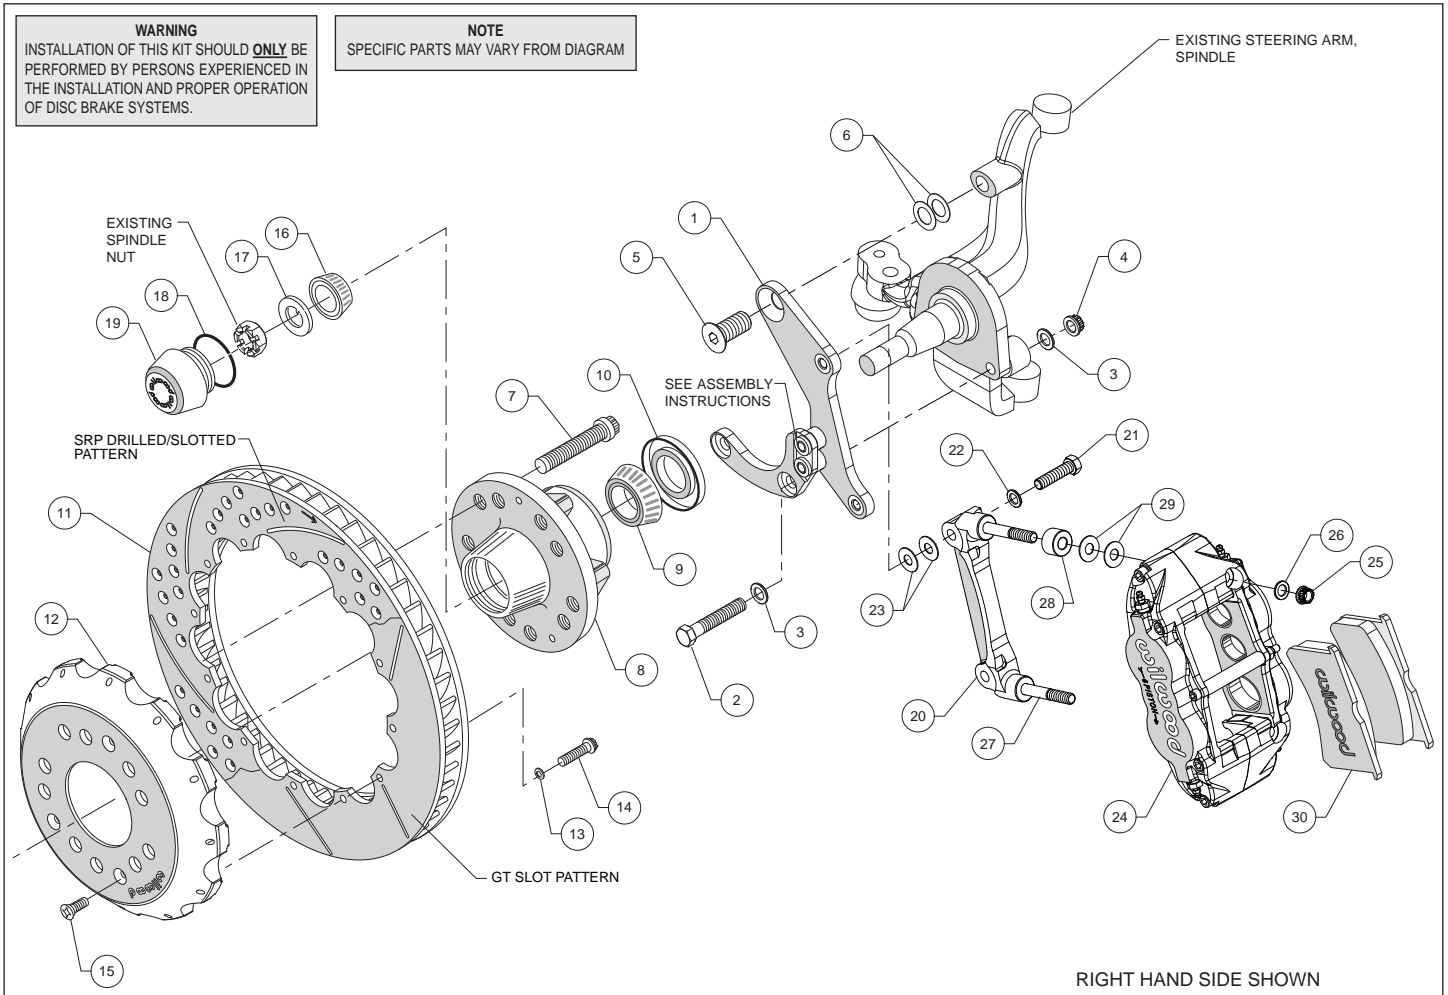
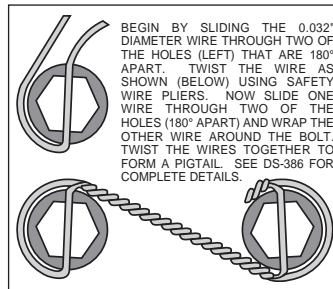
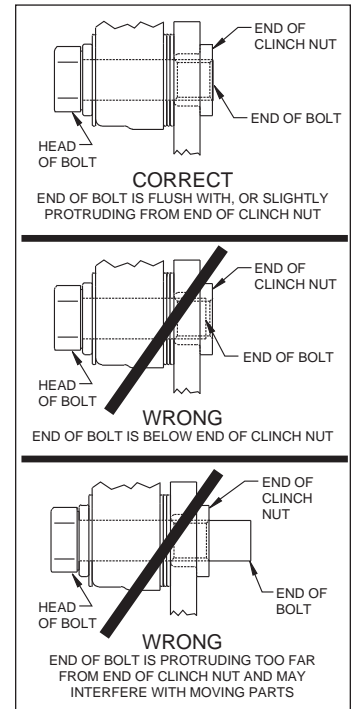

Figure 1. Typical Installation Configuration
Figure 3. Safety Wire Diagram
Figure 4. Clinch Nut Engagement Diagram
Assembly Instructions (numbers in parenthesis refer to the parts list and Figure 1 on the preceding pages): **CAUTION:** All mounting bolts must fully engage clinch nuts. Be sure to check that all bolts are either flush or protruding through flanged side of clinch nut after shimming, Figure 4.
- The spindle bracket (1) has been assembled at the factory for alignment purposes. Loosen the two bolts that secure the brackets together so that the bolts are hand tight only. This will enable the bracket assembly to be adjusted to accommodate various spindle tolerances during assembly. Align bracket with the two lower holes on the spindle face and attach using bolts (2), washers (3), and secure using nuts (4), as shown in Figure 1 and Photo 1. Install bolt (5) through top of bracket while placing shims (6) between bracket and spindle, Figure 1. Initially use two .024" thick shims (6) on the top bolt between the bracket and upright. Temporarily tighten the mounting bolts. Ensure that the flanged heads of the clinch nuts in the bracket are facing outboard, Photo 1. **NOTE:** The bracket must fit squarely against the mounting points on the spindle. Inspect for interference from casting irregularities, machining ridges, burrs, etc.
- Check that the bracket is aligned parallel to the rotor by assembling and installing the hub/rotor per the step below. If not, adjust by adding or subtracting shims (6) between the spindle and bracket, Figure 1.
- Install wheel studs (7) into the hub (8), Photo 2. Torque to 77 ft-lb. **NOTE:** There are two five lug patterns in the hub (5 x 4.50 and 5 x 4.75). Ensure the correct hub stud pattern is being used to fit the wheel application.
- Pack the large inner bearing cone (9) with high temperature disc brake bearing grease (available from your local auto parts store) and install into the backside of the hub (8), Photo 3.
- Install the grease seal (10) by pressing into the backside of the hub (8), flush with the end of the hub, Photo 3.
- Orient the rotor (11) and the hat (12) as shown in Figure 1 and Photo 4. Attach rotor to hat using bolts (14) and washers (13). Using an alternating sequence, apply red *Loctite*[®] 271 to the threads, and torque to 155 **in-lbs**. For an added measure of security, the bolts may be safety wired using standard 0.032 inch diameter stainless steel safety wire as shown in Figure 3.
- The caliper mount bracket (20) should initially be installed with clean, dry threads on the mounting bolts. Orient the bracket as shown in Figure 1 and Photo 7, and install using bolts (21) and washers (22). Initially place two .035" thick shims (23) on each bolt between the bracket and the spindle bracket (1), Figure 1. Temporarily tighten the mounting bolts. Later, after the caliper alignment has been checked, the mount bolts will be secured using red *Loctite*[®] 271.
- **NOTE:** *This kit contains distinct right and left hand calipers that must be mounted in a specific direction, as described below.* Lubricate the caliper mounting studs (27) with lightweight oil. Initially place two .035" thick shims (29) and one spacer (28) on each stud between the caliper and the bracket, as shown in Figure 1 and Photo 8. Mount the caliper (24) onto the bracket (27) using lock nuts (25) and washers (26), Figure 1. Ensure that the caliper is mounted so the largest pistons are at the rotor exit end of the caliper, in relation to the direction of rotor rotation. Temporarily tighten the lock nuts and view the rotor through the top opening of the caliper. The rotor should be centered in the caliper, Photo 9. If not, adjust by adding or subtracting shims (23) between the spindle bracket (1) and the caliper bracket. Always use the same amount of shims on each of the two mounting bolts. **NOTE:** *The end of each bolt must be flush with or slightly protruding from the head of the clinch nut, as shown in Figure 4.* If necessary place spare shims between washer (22) and caliper mounting bracket to achieve the proper clinch nut engagement. Once the caliper alignment and clinch nut engagement are correct, remove the bolts one at a time, apply red *Loctite*[®] 271 to the threads, and torque to 40 ft-lb.